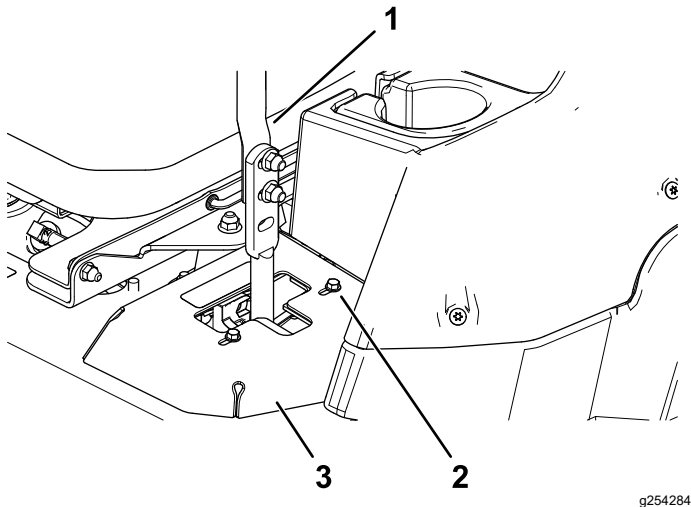

Figure 56
- If it tracks to the right, loosen the bolts and adjust the left stop plate rearward on the left T-slot until the machine tracks straight (Figure 56).
- If it tracks to the left, loosen the bolts and adjust the right stop plate rearward on the right T-slot until the machine tracks straight (Figure 56).
6. Tighten the stop plate (Figure 56).